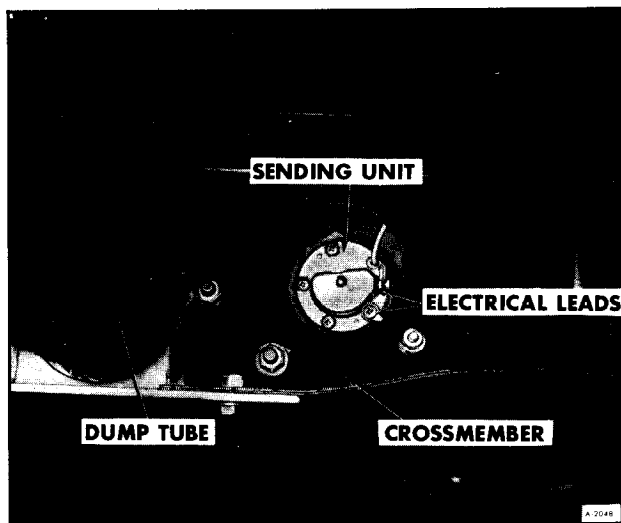

Figure 5—Holding Tank Sending Unit
1. Disconnect two electrical leads to unit as shown in Figure 5.
### INSTALLATION (FIGURE 5)